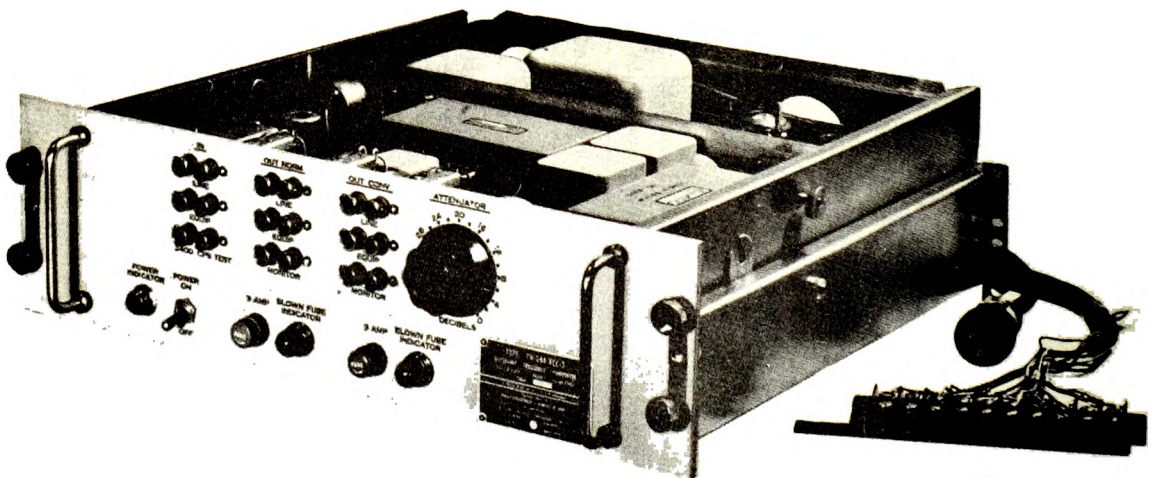

Figure 1-5. Electronic Frequency Converter CV-244/FCC-3, Identification of
e. ELECTRONIC FREQUENCY CONVERTER CV-244/FCC-3. - (See figure 1-5.) This unit provides an ungrounded input circuit having a nominal 600 ohm impedance and also an ATTENUATOR variable from 0 to 40 db in 2 db steps. The acceptable range of signals at the input is from 382.5 cycles to 3315 cycles. Those signals which have been translated by the Converter CV-243/FCC-3 are selected by a filter having a pass band of 1742.5 cycles to 3017.5 cycles and are returned to their original frequency spectrum of 382.5 cycles to 1657.5 cycles. These signals may then be applied to narrow-band receivers connected to the proper output circuit of the unit. Those signals in the frequency spectrum of 382.5 cycles to 1657.5 cycles, not having been translated by the CV-243/FCC-3, are rejected by the above band-pass filter and may be applied to additional narrow-band receivers connected to the proper output circuit of the unit.